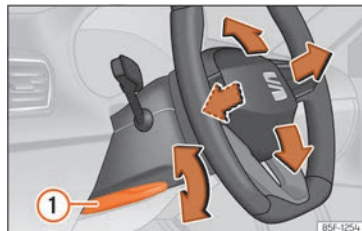

Fig. 5 Lever in the lower left side of the steering column.
- Pull the »» Fig. 5 ① lever down, move the steering wheel to the desired position and lift the lever back up until it locks.
- After adjusting the steering column, push the lever » Fig. 5 ① firmly upwards to ensure the steering wheel does not accidentally change position while driving.